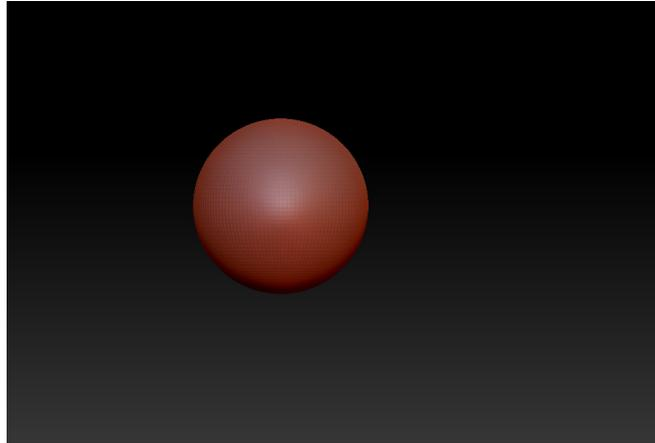

Figure 3-110 The Sphere3D primitive created on the canvas
2. Choose the Current Tool button from the **Tool** palette; a flyout is displayed. Choose the **Sphere3D** primitive from this flyout. Press and hold the left mouse button and drag the cursor on the canvas; a sphere is created in the canvas, refer to Figure 3-110. Next, choose the **Edit** button from the top shelf to switch to the edit mode.